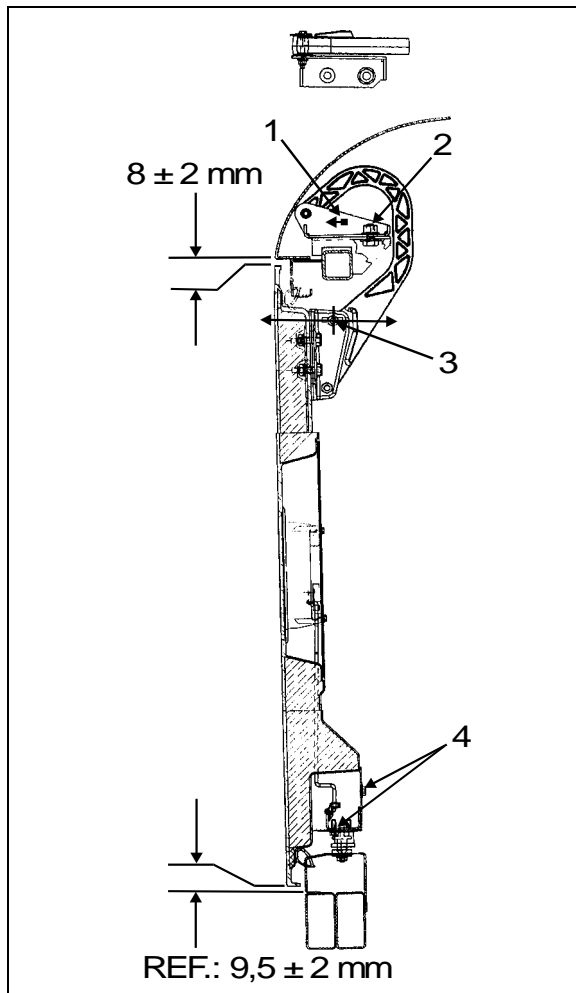

FIGURE 78: DOOR HINGE
3. Move part (1, Fig. 78), as close as possible to exterior of coach, so as to have enough clearance for proper door opening.
4. Tighten nut (2, Fig. 78).
5. Loosen nut (3, Fig. 78). Hinge allows the door to be shifted "IN or OUT".
6. Adjust door panel to have the same gap space as neighboring panels or refer to figure 51 for specified gap space. Only if necessary, use the adjustment allowed by moving part 1, Fig. 78.
2. Loosen nut (2, Fig. 78).